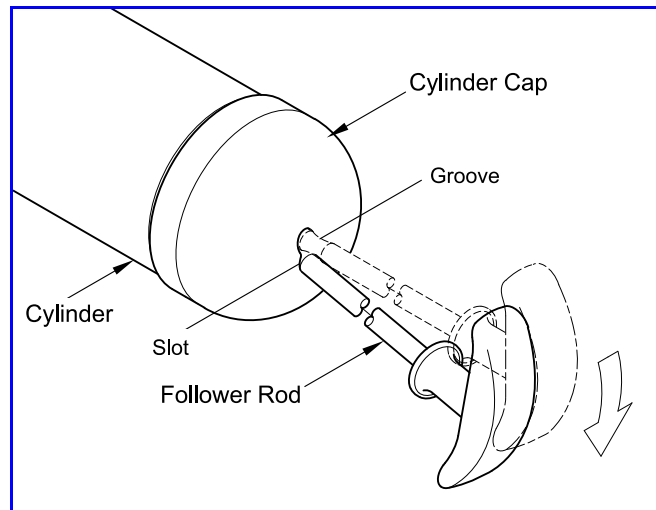

Figure 3 Follower Rod Engaged in Cylinder Cap Slot
3. Engage the groove* in the Follower Rod with the slot in the Cylinder's Cap. See **Figure 3**.
4. Engage the groove in the Follower Rod with the slot in the Cylinder's Cap. See **Figure 3**.